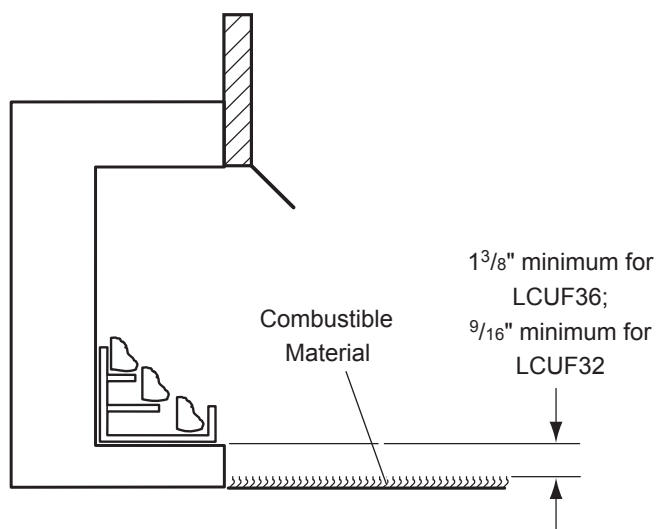

**Figure 5 - Mantel Clearances**
4. **Mantel clearances:** The canopy supplied with the unit must be installed. If a combustible mantel is installed, it must meet the clearance requirements as shown in *Figure 5*. However, if lower mantel height is desired, see *page 15* for canopy options.